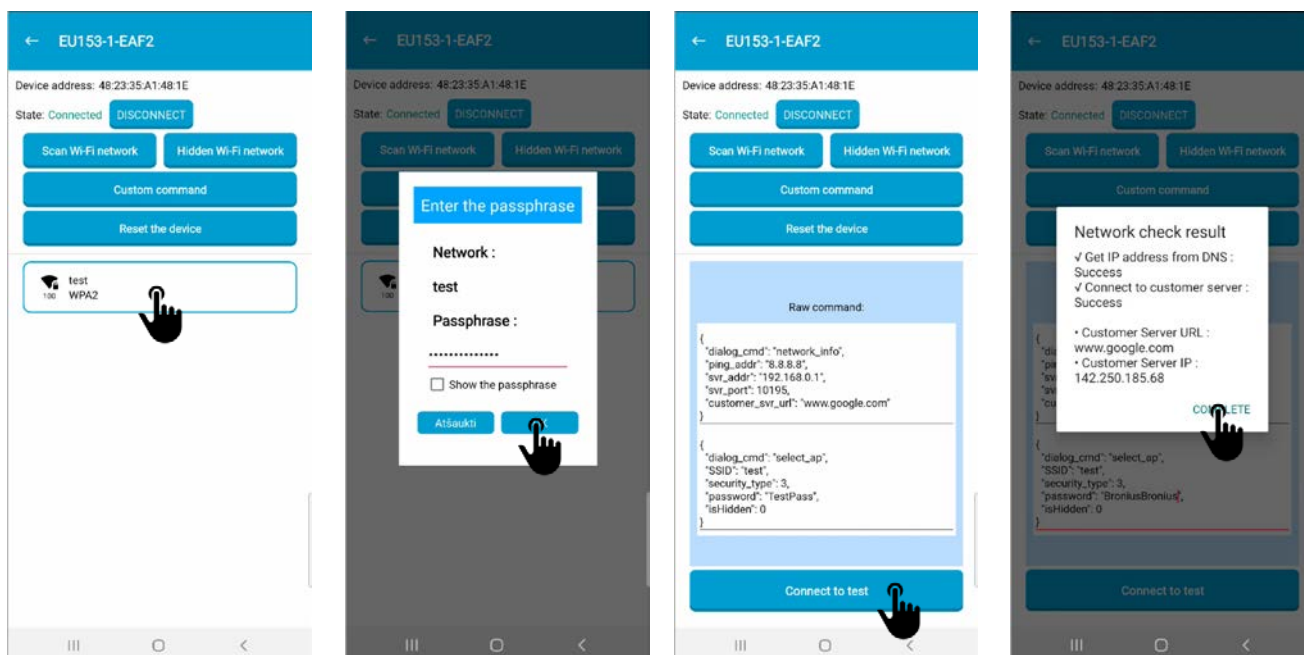

Figure 6: WiFi Provisioning
10. Next steps are shown in Figure 6: